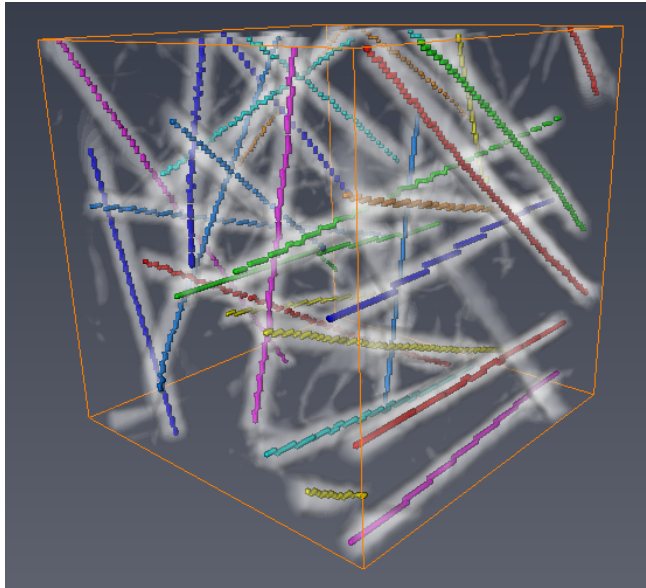

Figure 12.17: Voxelized Rendering of the Correlation Lines
5. Attach a *voxelized rendering* module to the converted dataset to visualize it inside the original greyscale dataset (see Figure 12.17).